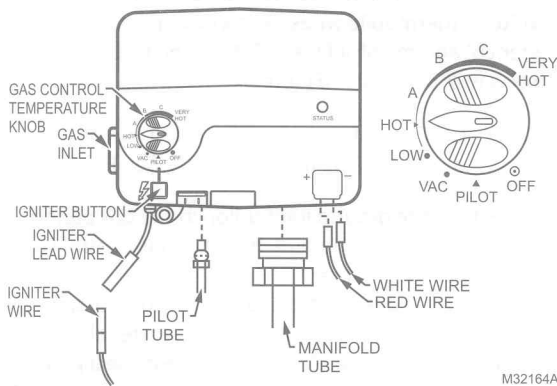

Fig. 2. Gas Control Valve/Thermostat
7. Disconnect the igniter wire from the igniter lead wire. Use needle nose pliers to disconnect the red (+) and white (-) thermopile wires. Disconnect pilot tube (7/16" wrench) and manifold tube (3/4" wrench) at the gas control valve/thermostat (Figure 2).
NOTE: L.P. Gas systems use reverse (left-hand) threads on the manifold tube. (See Figure 2)